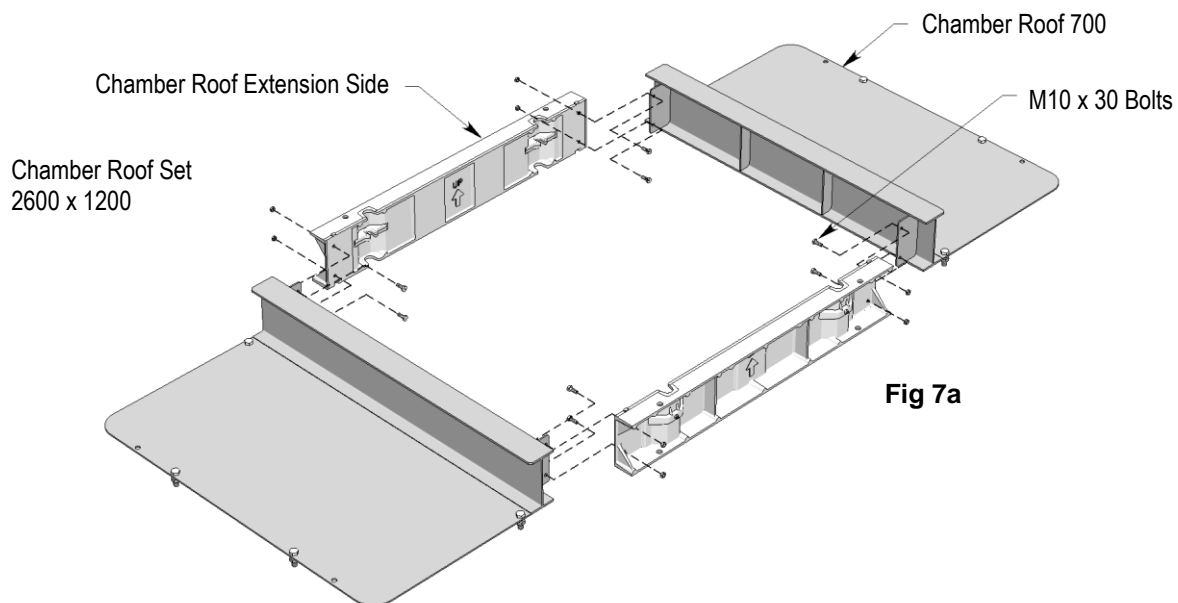

Fig 7a
7. Assemble **chamber roof extension side** and **chamber roof 700** as per Fig 7a using the 8 – M10 x 30 bolts and washers supplied. Place on top of chamber flange. See arrows for right way up.